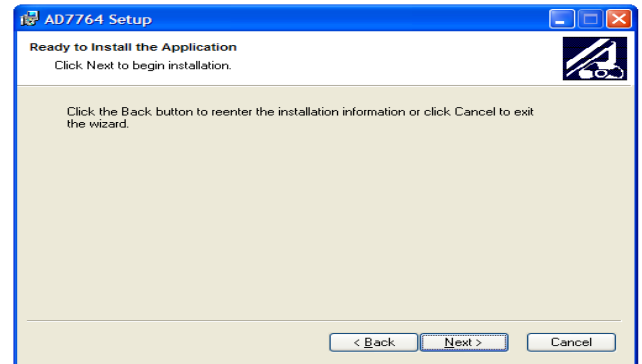

Figure 4. Install the Software
4. Click **Next**, as shown in Figure 4, unless there's a need to go back to the previous dialog box to change the installation location.